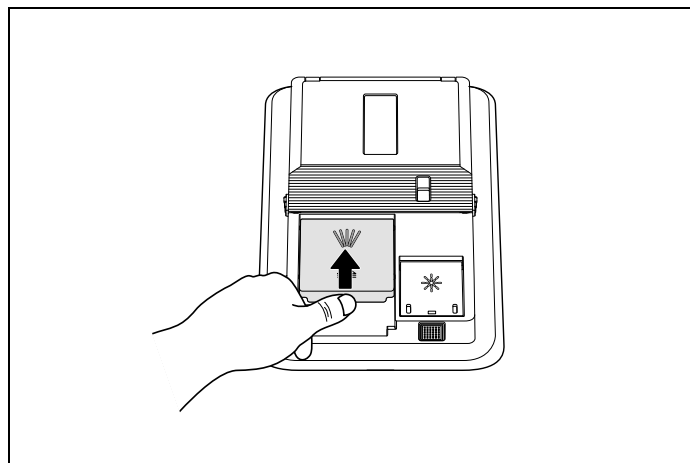

Fig. 63
- 3) Close the lid and press it until it locks in place (Fig. 63).